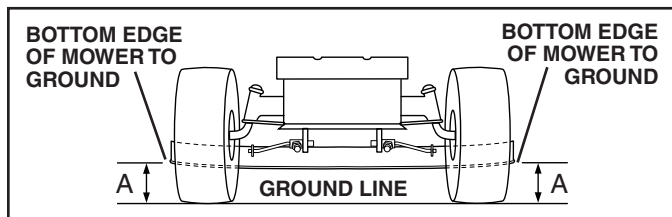

FIG. 17
**SIDE-TO-SIDE ADJUSTMENT** (See Figs. 17 and 18)